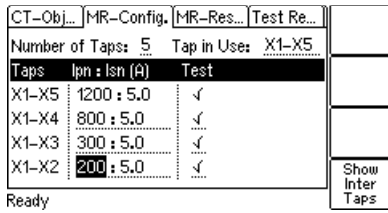

Figure 5-2: **MR-Config** card for MR Test mode
5. Display the **MR-Config** card (see Figure 5-2) and configure the multi-ratio test according to your CT under test.